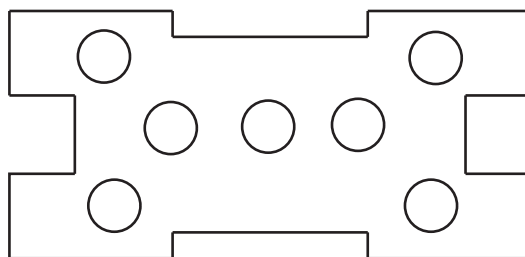

Fig. 17-24
2. You have received a design change for the shim you created in problem 1 of this chapter's Applying AutoCAD Skills section. Open **shim.dwg** and use the **MOVE** and **COPY** commands to arrange the holes in a pattern approximately as shown in Fig. 17-24. Save the drawing as **shimrev.dwg**.